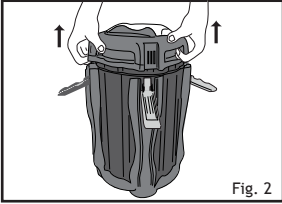

Fig. 2
2. Lift the head unit off the canister body. Place it somewhere safe where it will not be stepped on or broken. Fig. 2